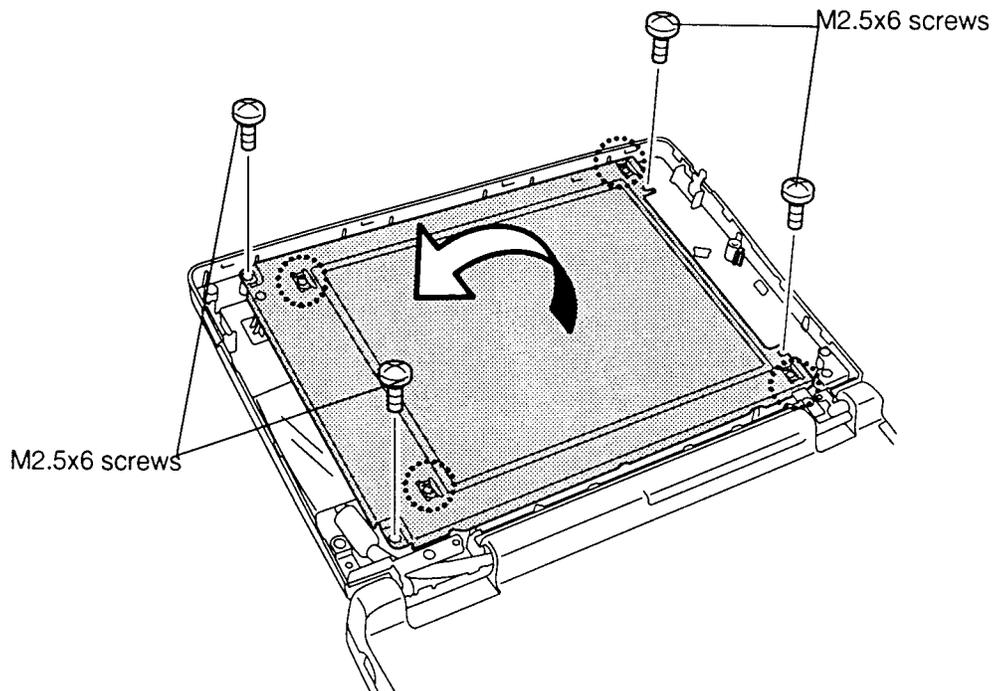

Figure 4-36 Removing the LCD screws
To remove the T2400CT's LCD Module, follow the steps below and refer to figures 4-36 to 4-38.
3. Remove the **four M2.5x6 screws** securing the LCD module to the back frame of the computer (figure 4-36).
NOTE: Do not remove the screws circled in figure 4-36. These screws secure the metal cover to the LCD panel.
To install the T2400CT's liquid crystal display module, follow the steps below and refer to figures 4-36 to 4-38.
5. Secure the panel with **four M2.5x6 screws** (figure 4-36).